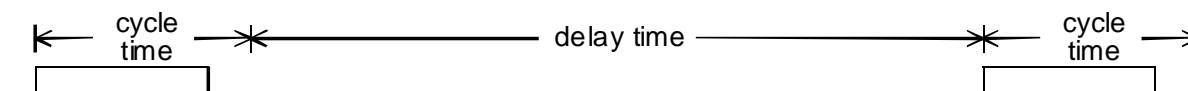

Figure 5: Representative timing diagram for topping and maintenance charge
The topping charge is applied for a minimum of two (2) hours. The current consists of the same pulse technique used during the fast charge stage; however, the delay time is extended as shown in Figure 5. Extending the delay time between charge pulses allows the same charging current used as in the fast charge stage so that no changes to the current source are necessary. For example, the same charge pulse that occurs every second at a 1C (1 hour) fast charge rate will occur every eleven (11) seconds for a topping charge rate of C/11. The MMN indicator is a continuous active low during the topping and maintenance charge stages.